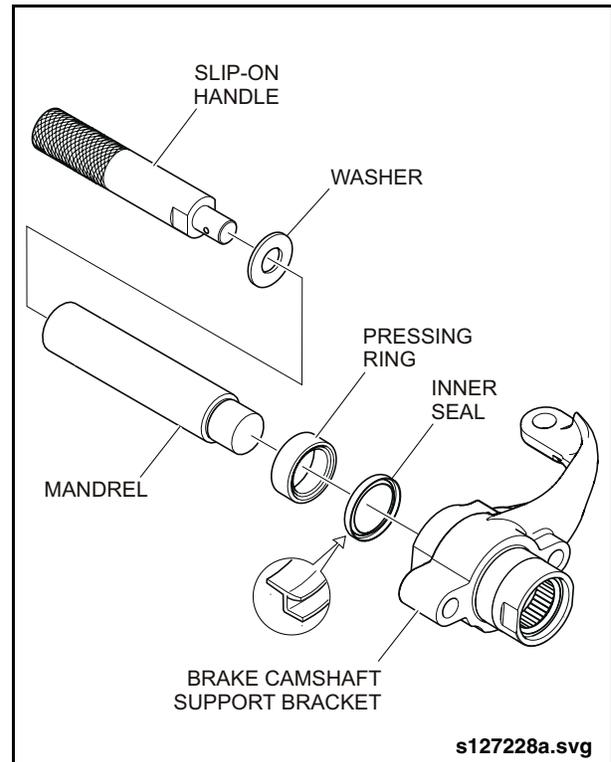

Fig. 1: Inner Seal Installation
1. Press in the inner seal (slack adjuster side) using press-in tool. Refer to your New Flyer Service Manual for special tool listing. See “Fig. 1: Inner Seal Installation” on page 2.